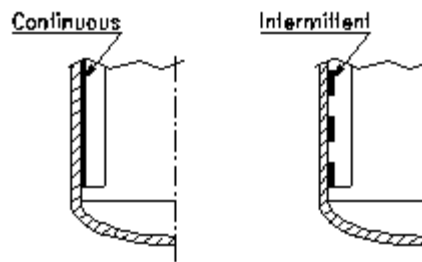

FIG.9
- 3-4 : All welds for lining vessels should be continuous as shown in Fig. 9.